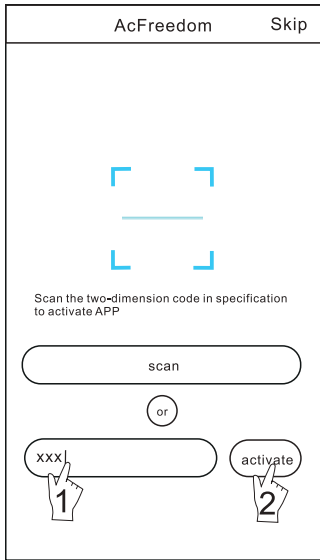

Figure 4
2. By entering the activation code (**Tesla**) in the area prompted by "enter activation code" (see fig.4)